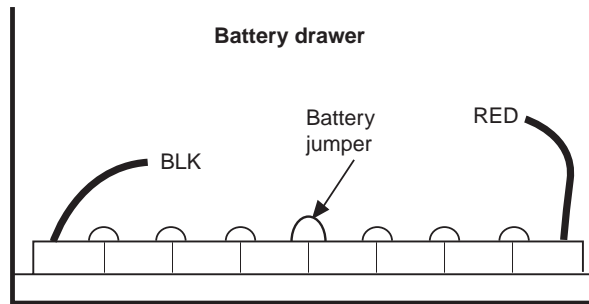
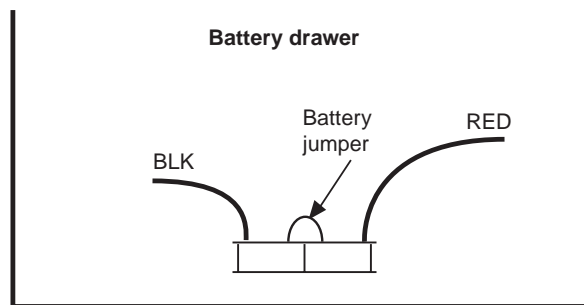

Figure 20. Battery Jumper Installed in Connector Bus
Figure 21. Battery Jumper Installed in Connectors
- 7 Locate the battery jumper in the cabinet loose parts package. Install the battery jumper in the connectors at the locations where the cables have been removed; push the jumper terminals into the connectors so that they lock in place. The installed battery jumper is shown in Figure 20 and Figure 21.